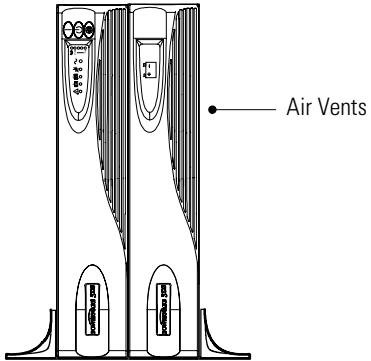
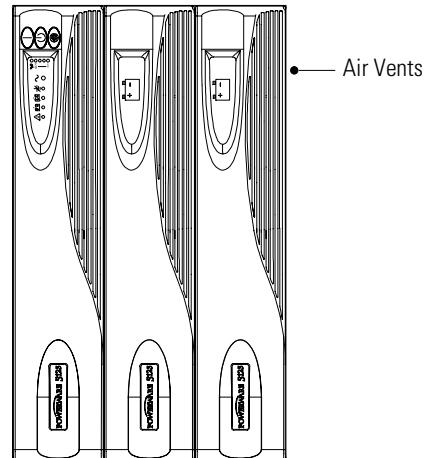

Figure 10. Pedestals with Two Cabinets
Figure 11. Vertical Cabinet Setup
8. Carefully position the cabinets upright with the air vents at the top (see Figure 10 or Figure 11).